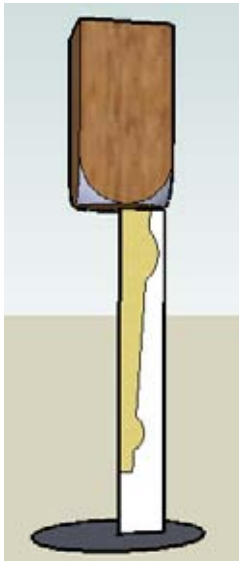

Figure 4-40
11. To make the lathed shape, draw a vertical rectangle below the box, sharing an edge with the construction line. On this rectangle, draw a section for the leg, like the one shown in Figure 4-40 in yellow. For the Follow Me circle, draw a horizontal circle at the bottom of the rectangle, centered on the construction line.